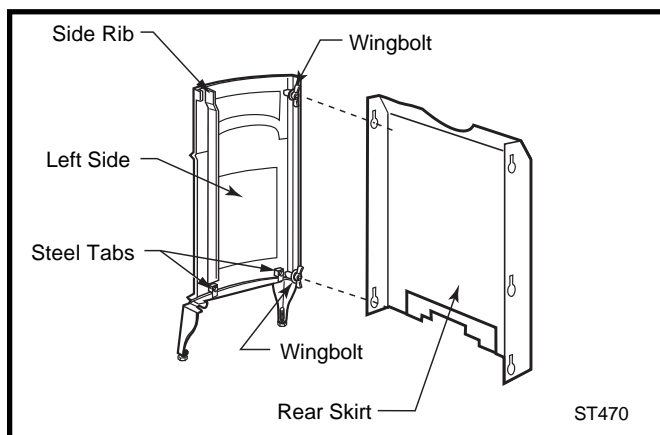

Fig. 14 Fasten left end to rear skirt.
1. Attach the Rear Skirt to the Left End plate by aligning the key holes with the two wingbolts in the side. If necessary, turn the wingbolts to orient the blades vertically. (Fig. 14) Slide the skirt downward to engage it behind all three washers on the side plate bolts and then tighten both wingbolts.